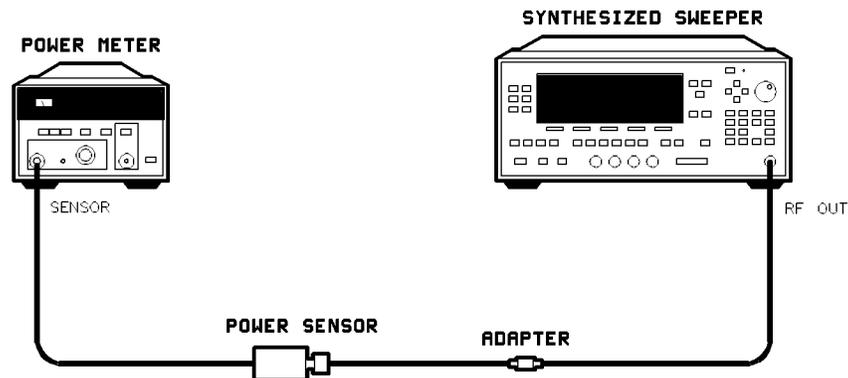

Figure 3-24. ALC Power Level Accuracy Adjustment Setup
1. Preset the equipment shown in Figure 3-24 and let them warm up for at least one hour. Do *not* connect the power sensor to the synthesizer RF OUTPUT yet.